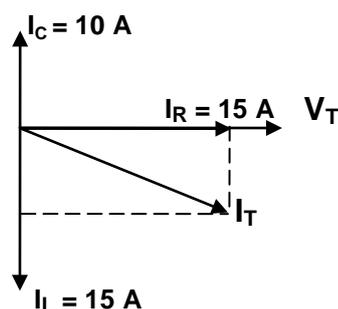

FIGURE 5.1: PHASOR DIAGRAM OF AN RLC PARALLEL CIRCUIT
- 5.3 The phasor diagram in FIGURE 5.1 indicates the current values flowing through the components of a parallel circuit connected across a 240 V/50 Hz supply.